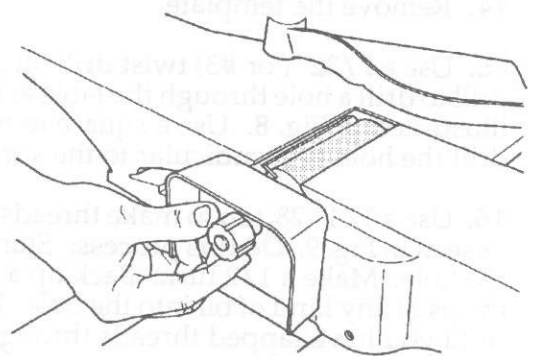

Fig. 2
4. Grasp the jointer's power coupler and rotate the cutter head so no blade is exposed in the opening. See Fig. 2.